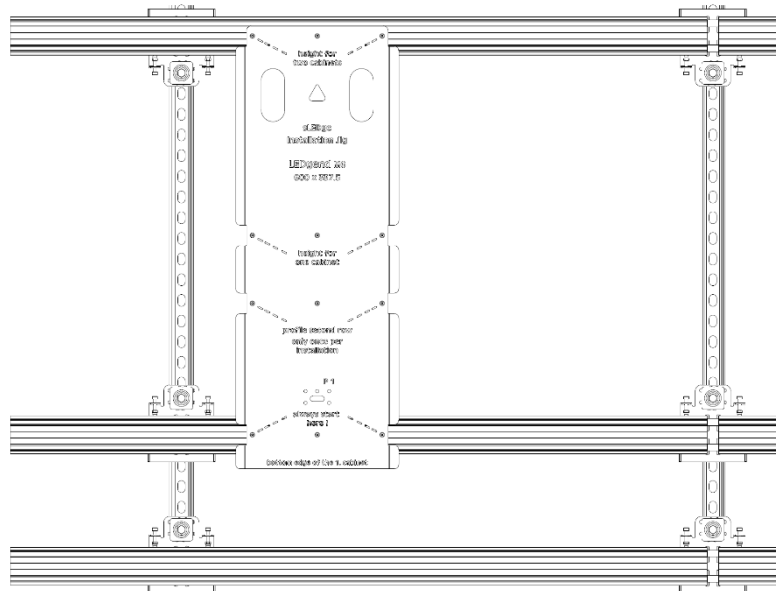

Figure 13 Front view jig with two cabinet distance
- If the next row has a gap of two cabinets, use the lowest guiding pin for the current top row and the fourth guiding pin for the next row (see Figure 13)